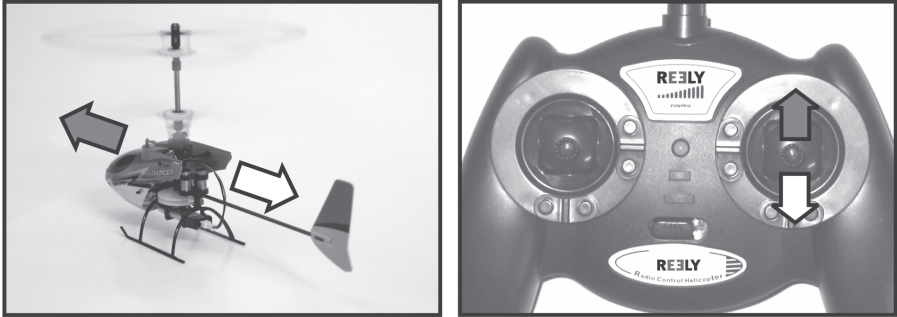

Figure 14
The nod function allows you to move your model helicopter forward and backward (see figure 14). This is also controlled with the right control lever (also see figure 1, item 3).